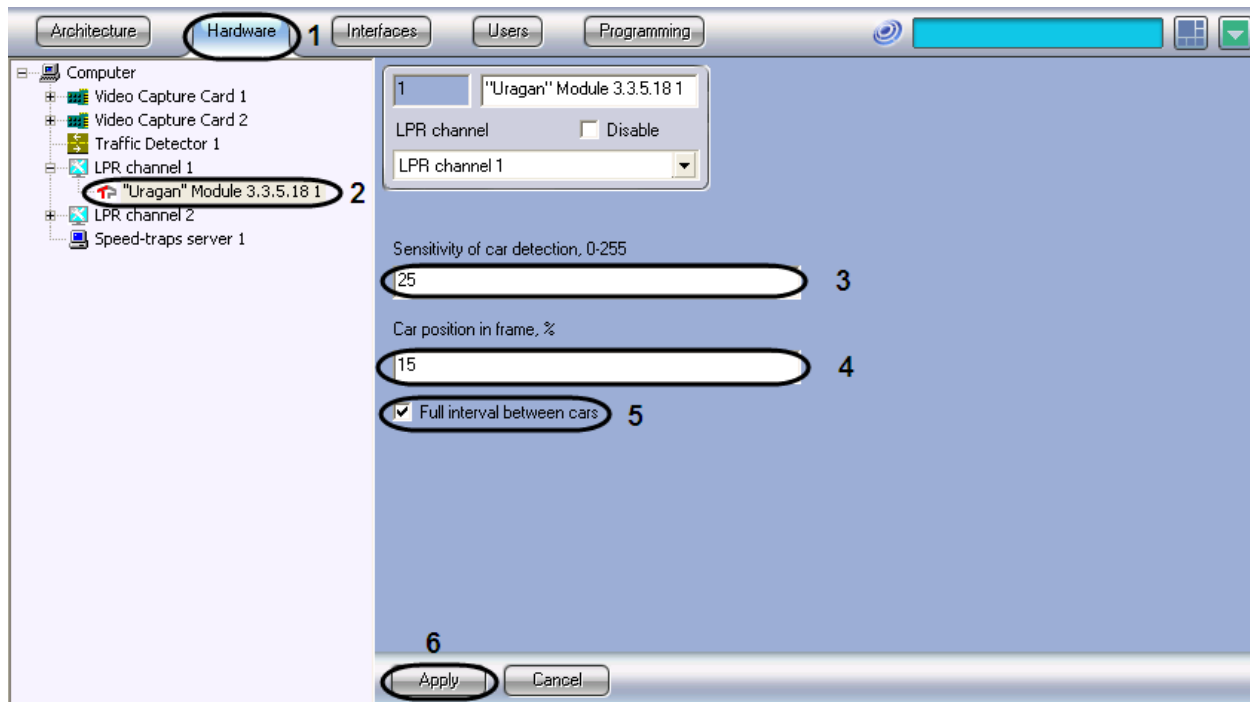

Fig. 7.2-3 Setting up the Auto-Uragan 3.3.5.18 program module
1. Go to the Hardware tab in the system setting dialog window (Fig. 7.2-3, 1).
2. In the objects tree on the Hardware tab select the Auto-Uragan 3.3.5.18 object, corresponding to the set Auto-Uragan 3.3.5.18 program module (Fig. 7.2-3, 2). The settings panel of the selected object will open on the right side of the window.
3. In the sensitivity of car detection field (0-255) enter the sensitivity value which characterizes the contrast detector's sensitivity of car's image (Fig. 7.2-3, 3).
4. In the field Car position in frame (0-100) % enter the value in percent, showing the position of displayed video with a car between the moments of car's appearing and disappearing from the frame (Fig. 7.2-3, 4).
5. Set the checkbox Full interval between cars in case if the recognizer is to be in a waiting state with motion absence in the whole frame (Fig. 7.2-3, 5).
6. Click Apply to save the changes (Fig. 7.2-3, 6).